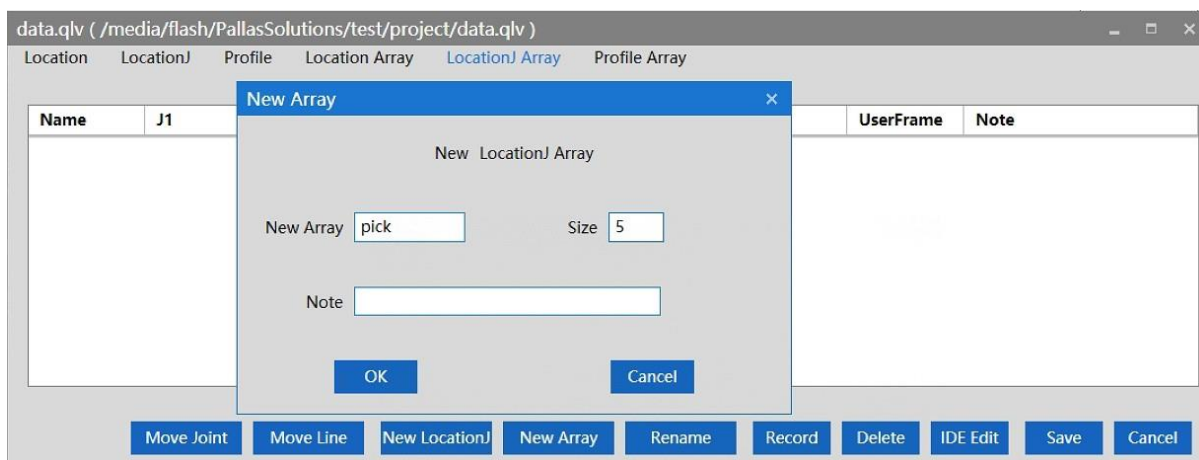

Figure 6-38 New LocationJ Array
Step 5 New LocationJ Array; Click "New Array" in "LocationJ Array", and the "New Array" interface will pop up. Enter the array name and array length, and click "OK", as shown in Figure 6-38.